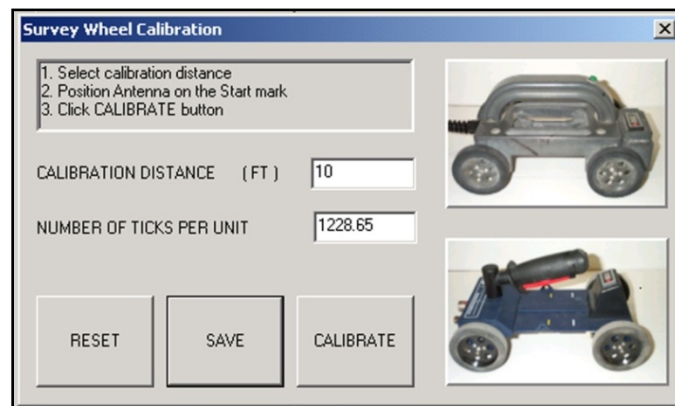

Figure 35: Survey Wheel Calibration dialog box.
- 6** You will see a window pop up with the heading Survey Wheel Calibration (Figure 35). This is where you enable the DMI and calibrate it to accurately track distance. *You must calibrate your survey wheel.* Failure to do so will result in an incorrect horizontal scale on your profiles.